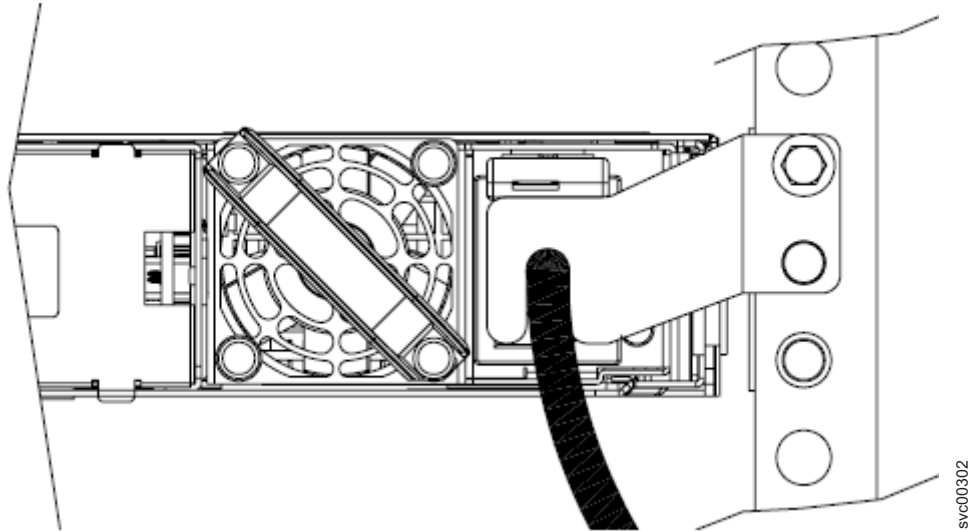

Figure 45. The SAN Volume Controller 2145-8G4 with cable retention bracket attached
2. At the back of the cabinet, remove the securing bolt from the node side rail next to the power supply. See Figure 45 on page 84